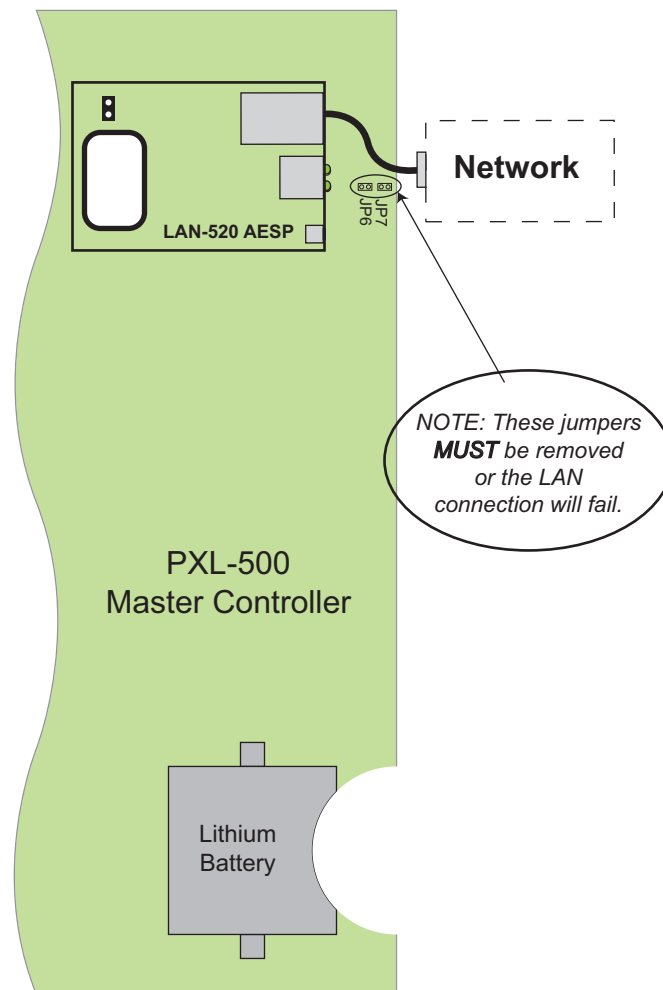

Figure 2: Installing the LAN-520 AESP
3. Insert the LAN-520X into J7 on the Entraguard. Orient the LAN unit as shown in Figure 2.